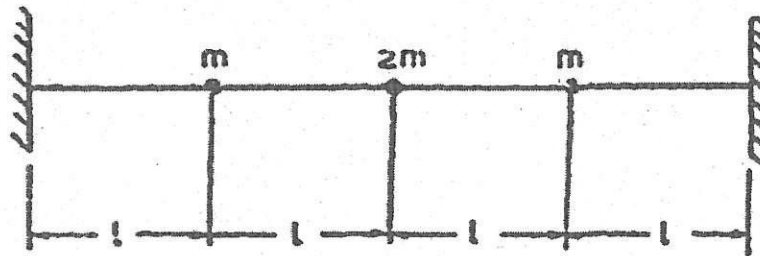

Fig. 3
5. For a taut string having tension T and three concentrated masses as shown in Fig. 3, use the method of influence numbers to find the three natural frequencies. 15